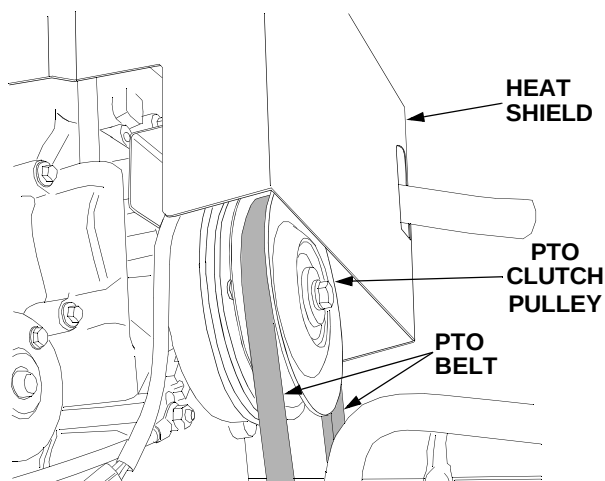

Figure 6-25
11. Loop the PTO belt with the narrow side of the 'V' belt inward; then maneuver the loop of the belt up between the front of the PTO pulley and the heat shield on the front of the engine, and place the belt into the groove of the PTO pulley. See Figure 6-25.